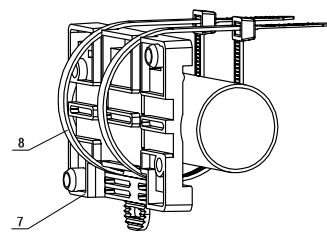

Fig. 3
8. To mount the device on DIN rail attach the carrier (7) to the device using the two screws (4) and snap the device onto the DIN rail.
9. To mount the device on a tube attach the carrier (7) to the tube using two 6 mm wide cable ties (Fig. 3), then attach the device to the carrier (7) using the screws (4).
10. To mount the device on the wall use the two holes for the screws (4)
11. Snap the two slide covers (1) onto the front panel (2).